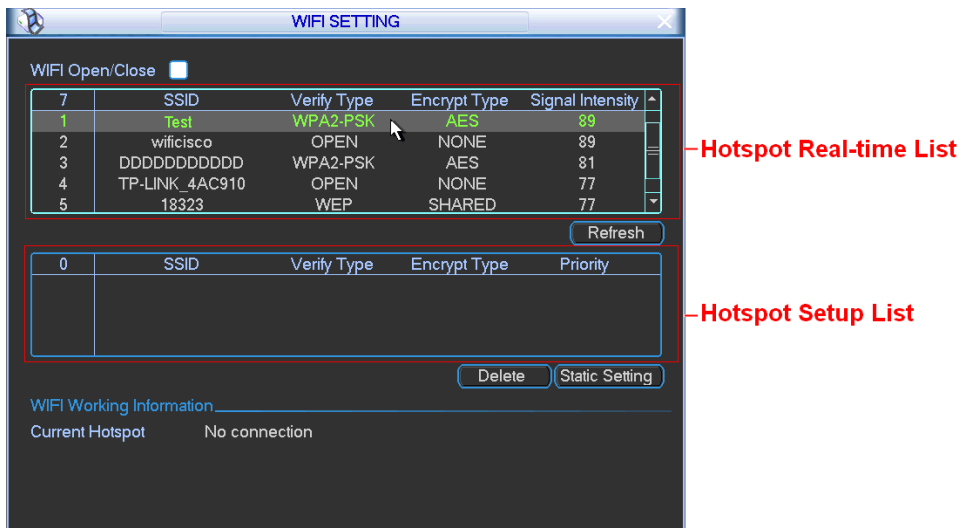
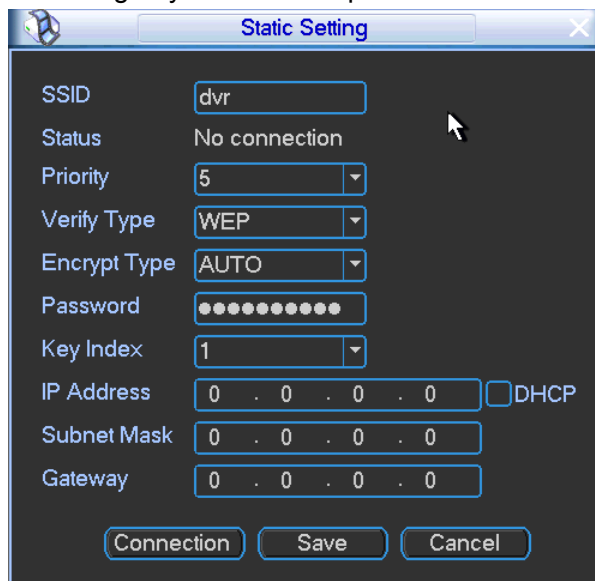

Figure 5-25
Figure 5-28
The WIFI interface is shown as below. See Figure 5-25.
In Figure 5-25, click the Static setting button; you can go to the following interface. See Figure 5-28
- On the static setting interface (Figure 5-28), only the hotspot of WEB authentication mode can supports key-index.